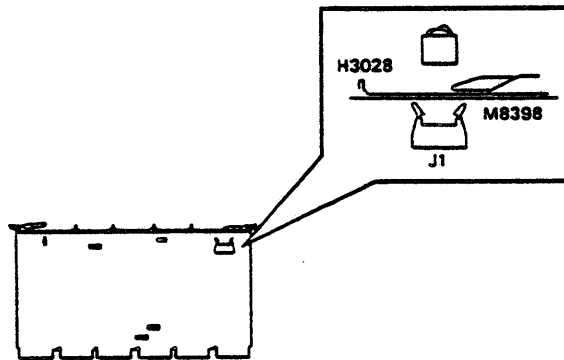

Figure 2-9 H3028 Loopback Connector Installed on M8398
2. Install the Local T1 Loopback (H3028) connector into J1 of the M8398 module (Figure 2-9).